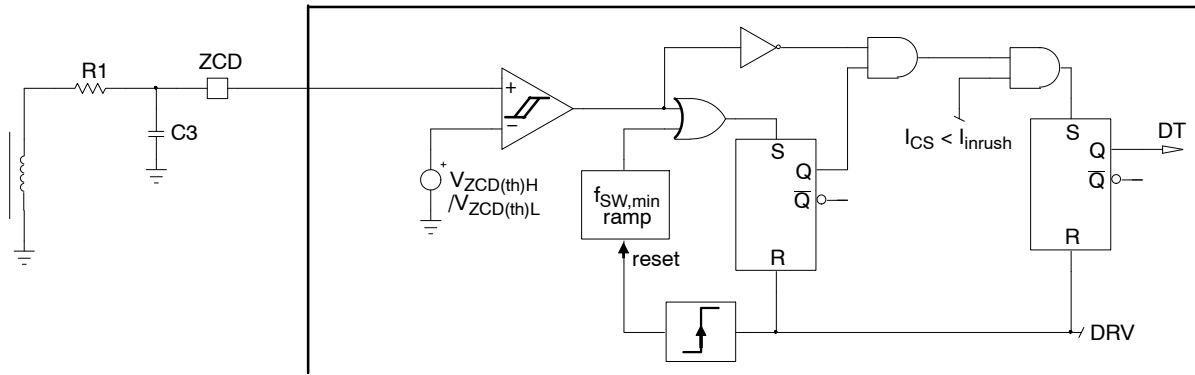

Figure 9. Zero Current Detection Block
Figure 9 shows how the NCP1655 detects the valley.
- The ZCD pin impedance (for instance R_3 of Figure 9), must be higher than 7.5 kΩ not to trigger the ZCD pin short-to-ground protection.
If no ZCD can be detected when the circuit operates in FCCrM mode, the circuit cannot use the valley detection to start a new current cycle. In this case, the next DRV pulse is forced by the DCM minimum frequency ramp ($f_{sw,min}$ ramp of Figure 9) which acts as a watchdog.
Before the new pulse is generated, the circuit senses the pin impedance by sourcing 250 μ A. No DRV pulses are generated until the pin voltage exceeds V_{ZCDH} . Hence, the part is inhibited when the pin is grounded. Not to trigger this protection, the pin impedance (for instance R_3 of Figure 9. must be higher than 7.5 k Ω).